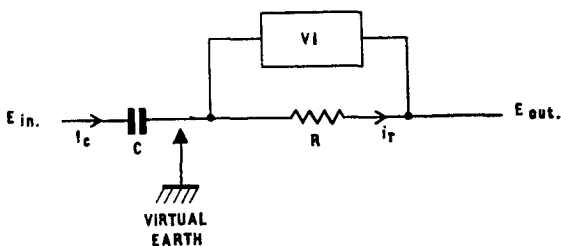
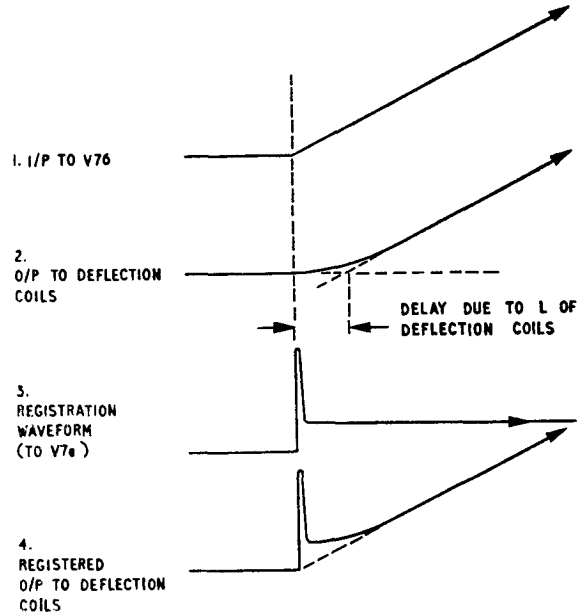

Fig. 3. Differentiating amplifier: simplified diagram
Fig. 4. Action of registration waveform
5. V1 and its associated circuitry has been introduced to overcome lag in the beginning of the current sawtooth (and therefore possible discrepancies in range) due to the large inductance of the deflection coils. The operation of the amplifier (shown simply in fig. 3) is that of a normal feed-back amplifier which works to hold its input at zero signal potential, i.e. it produces a virtual earth at its input. It may be shown that the output is equal to a constant times the differential of the input. The output from V1 is varied by changing the value of the feedback resistance, selected from R5 to R8 by the operation of the trace expansion relays RLA, RLB, and RLC. When a sawtooth input, fig. 4 (1), is fed to V1, the output is the differentiated waveform (3). At the initial transition from d.c. level to a